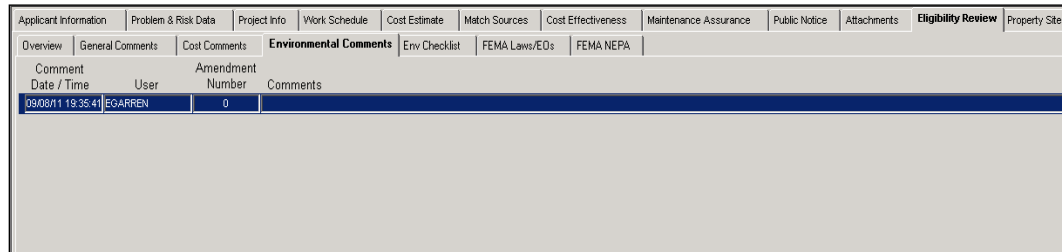

Figure 6-75: Environmental Comments Sub-tab with New Row
- a. On the bottom left part of the **Environmental Comments** sub-tab, click the **NEW** button. A new row is displayed with the Comment Date/Time, User and Amendment Number fields already filled in by the system (Figure 6-75).